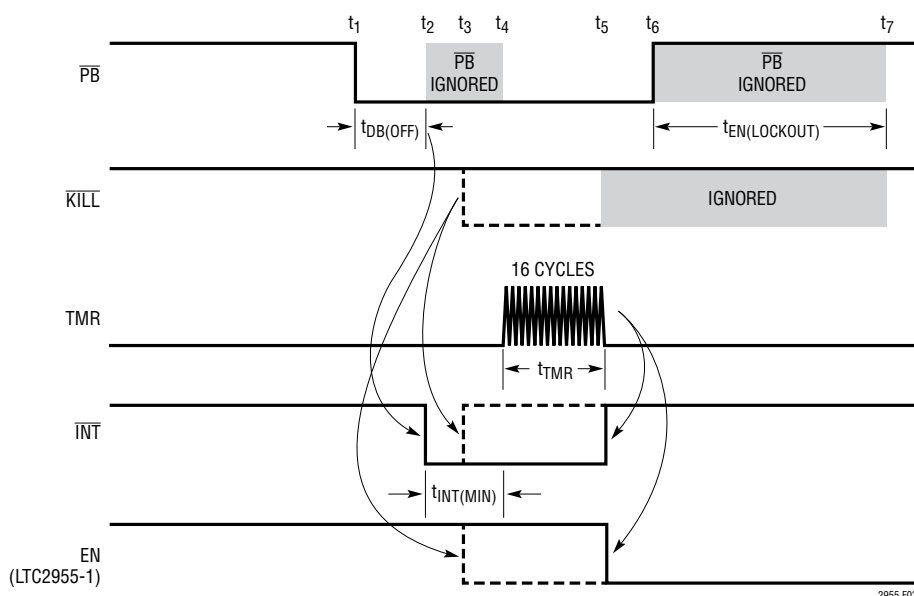
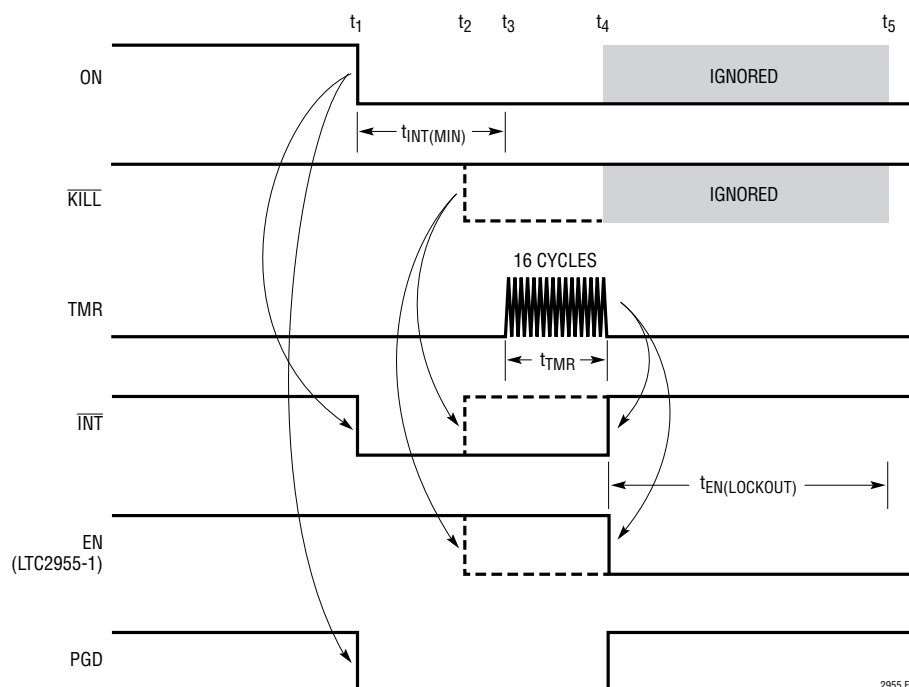

Figure 3. Pushbutton Turn-Off Timing
Figure 5. ON Pin Turn-Off Timing (DFN Only, $V_{SEL} > 1.2V$ and the Preceding Turn-On Sequence Was Initiated by the ON Pin Rising Edge)
Figure 3 shows the turn-off sequence of the LTC2955-1 initiated through the \overline{PB} pin. A turn-off sequence refers to the LTC2955-1 releasing the EN output. This turns off the voltage regulator.
A high to low transition on \overline{PB} (t_1) starts the turn-off sequence. In order to assert \overline{INT} (interrupt output) low, \overline{PB} must stay low continuously for 32ms ($t_{DB(OFF)}$). At the end of the 32ms (t_2), the \overline{INT} pin is asserted low and will stay low for at least 32ms ($t_{INT(MIN)}$), even if the \overline{PB} pin goes high during this period (t_2 to t_4). When the μP receives this interrupt signal, it should start to perform its power-down functions and assert \overline{KILL} low (t_3) once it is done. The LTC2955-1 will then release \overline{INT} and pull EN low, thus turning off the system power, as shown with dotted lines in Figure 3.
high). This can be done by holding the pushbutton down for a long period ($> t_{DB(OFF)} + t_{INT(MIN)} + t_{TMR}$) as shown with the solid lines in Figure 3. If the \overline{PB} pin remains low at the end of the 32ms minimum \overline{INT} pulse width ($t_{INT(MIN)}$), the external timer will start counting (t_4).
After the EN output goes low and the \overline{PB} pin goes high, the LTC2955-1 starts the one second lockout time ($t_{EN(LOCKOUT)}$). During this lockout time (t_6 to t_7 in Figure 3)
Figure 5 shows the turn-off sequence of the LTC2955-1 initiated by the ON pin. The timing sequence is slightly different from that by the pushbutton as there is no debounce time ($t_{DB(OFF)}$) before the \overline{INT} pin pulls low. The ON pin falling edge can start the turn-off sequence only if the following two conditions are met: (1) The preceding turn-on sequence was initiated by the ON pin rising edge, and (2) The SEL pin must be tied high ($>0.8V$). For TS8 package, the ON pin falling edge is ignored.
In Figure 5, a high to low transition at ON (t_1) starts the turn-off sequence. The interrupt output (\overline{INT}) is asserted immediately when the ON pin goes low. Unlike the \overline{PB} pin turn-off sequence, there is no 32ms debounce time ($t_{DB(OFF)}$) for the ON pin going low. This allows the system to initiate a shutdown as soon as the monitored supply is removed and allows the μP the maximum amount of time
to perform power-down functions. The \overline{INT} pin will stay low for at least 32ms ($t_{INT(MIN)}$). When the μP receives this interrupt signal, it should start to perform its power-down functions and assert the \overline{KILL} input low (t_2) once it is done. The LTC2955-1 will then release the EN and \overline{INT} outputs, thus turning off the system power, as shown with dotted lines in Figure 5.
If the μP fails to respond (\overline{KILL} pin remains high, as shown with solid line in Figure 5) and the ON pin remains low 32ms after \overline{INT} goes low, the external timer will start counting for 16 cycles (t_{TMR} , t_3 to t_4). If the ON pin remains low at the end of the 16 cycles (t_4), the LTC2955-1 will force the EN pin low and the \overline{INT} pin high. See Applications Information for adjusting t_{TMR} .
The LTC2955 allows the user to force the system power to turn off if the μP fails to respond during fault conditions. As shown by the solid lines in Figure 3 and Figure 5, when the μP fails to bring the $\overline{\text{KILL}}$ pin low after the interrupt signal is asserted, the user can force a turn-off by holding down the pushbutton. The length of time that $\overline{\text{PB}}$ must be held low is given by a fixed 64ms delay ($t_{\text{DB(OFF)}} + t_{\text{INT(MIN)}}$) plus an adjustable power-down timer delay (t_{TMR}). The adjustable delay is set by placing an optional external capacitor on the TMR pin. Use the following equation to calculate the capacitance for the desired delay. C_{TMR} is the external capacitor at the TMR pin: